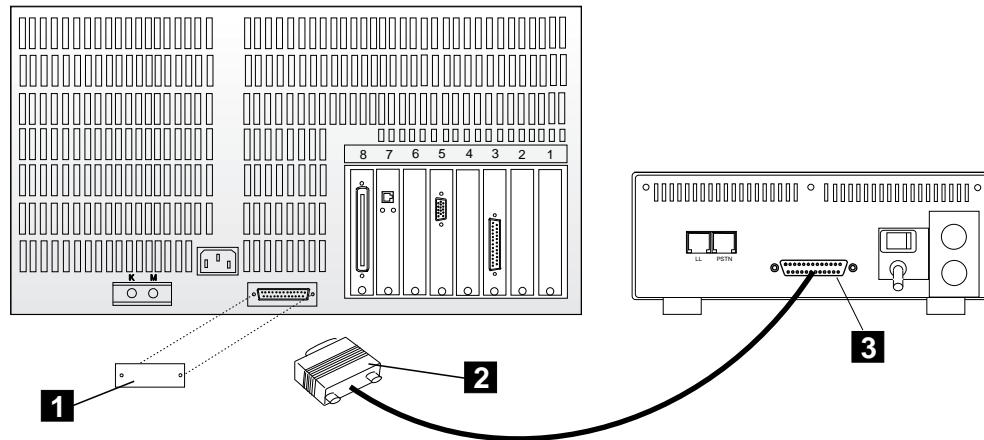

Figure 1-83. Connecting the Service Processor (3172) from COM1 to the 7857
- **3172**, refer to Figure 1-83 on page 1-74